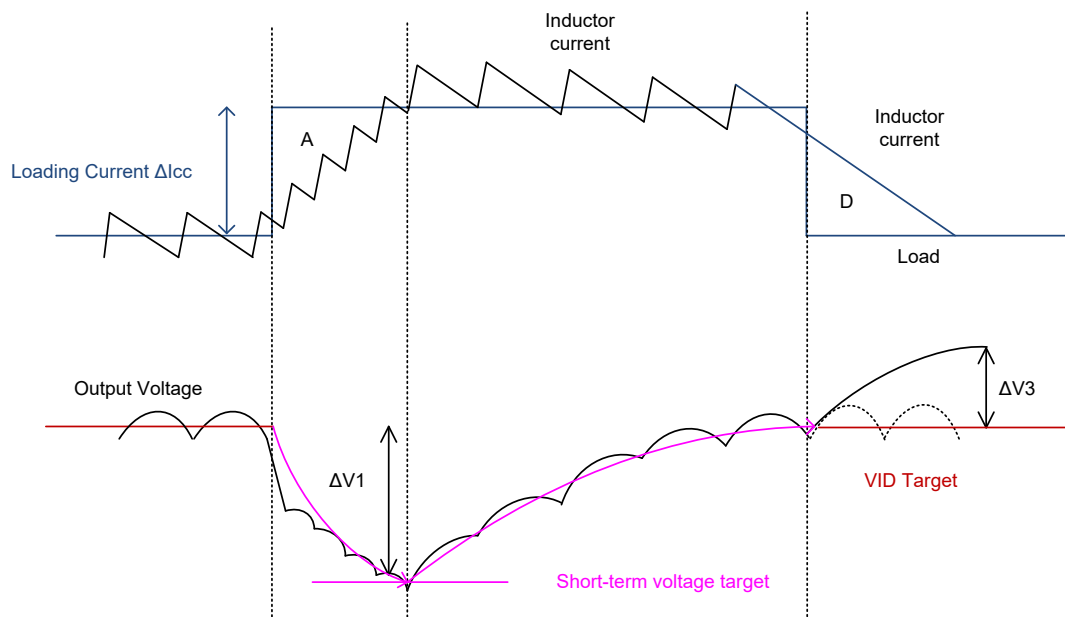

Figure 10. Zero Loadline with AC-droop Control
Figure 10 shows the condition with AC-droop control. While loading occurs, the controller temporarily changes VID target to short-term voltage target. Short-term voltage target is related to transient loading current  $\Delta I_{CC}$  and can be represented as the following:
where the VCS\_SUM is the sum of current sensing signal from DCR sensing or SPS current sensing. For DCR sensing, the VCS\_SUM = VCSUM - VCSNSUM = IOUT\_SUM x DCR/N. The current gain (AI) can be set by Pin Setting of AI Gain. Users can adjust AI gain by I2C register 0x41[3:2] to set desired short-term voltage target. The short-term voltage target reverts to VID target slowly after approximately 100μs. The short-term voltage target can help inductor current not to exceed loading current too much and then the ring back can be suppressed. Referring to Figure 10, the overshoot amplitude is reduced to only  $\Delta V_3$ .